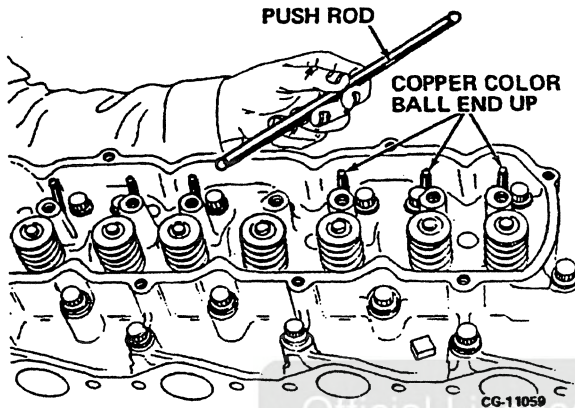

Figure 3.13. Push Rod Removal
1. Remove the push rods and identify each so they are returned to their original positions during installation. Refer to Figure 3.13.